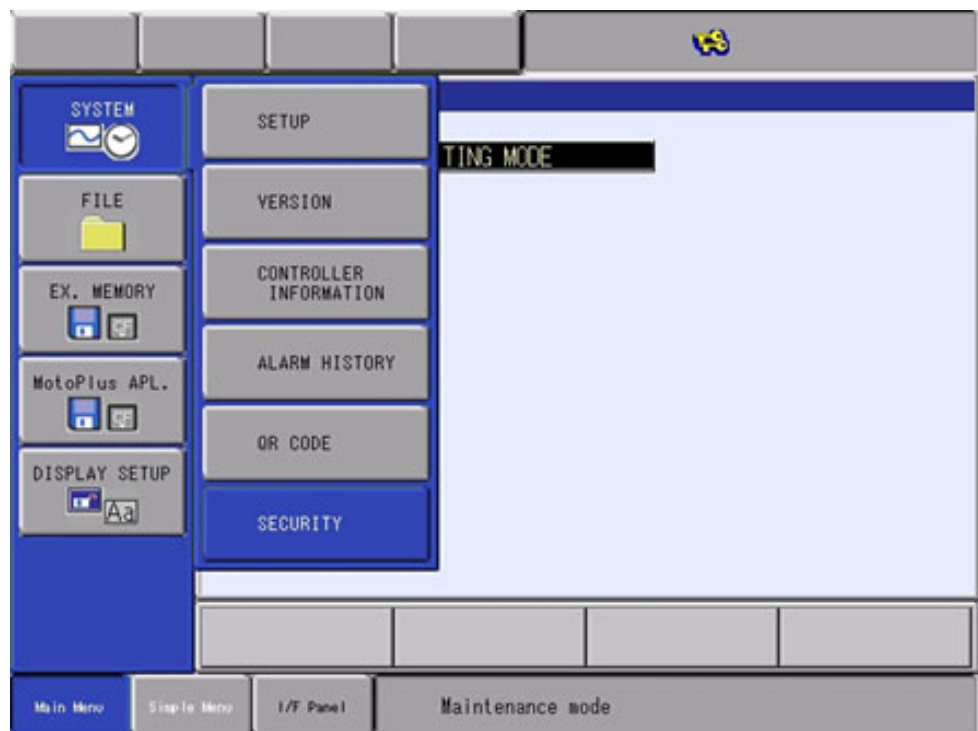

Figure 215: Selecting Security
2. Once the controller has boot-up, click "System" and select "Security." See Figure 215 (below).